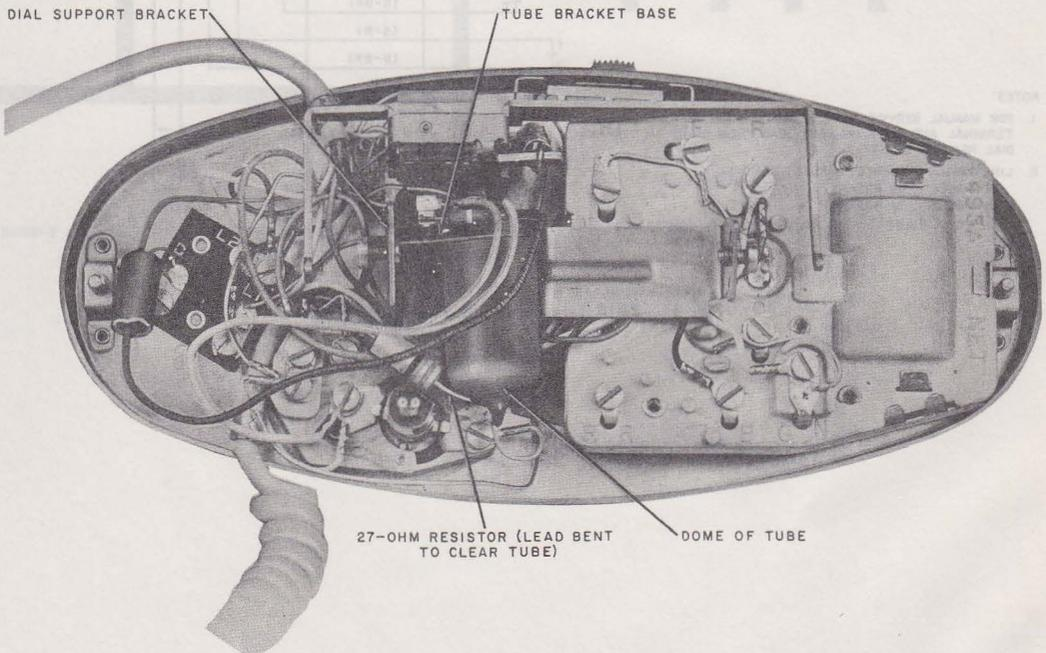

Fig. 10—Location of Cold-Cathode Tube in 701B Telephone Set
**3.11** If 4-party selective or 8-party semiselective service is desired, a 425A or 426A cold-cathode tube may be ordered and installed in the base of 701B or 702B telephone sets as follows (Fig. 10):